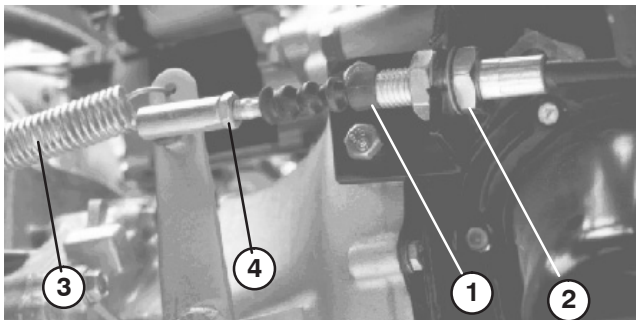

Figure 5
1. Loosen the jam nuts securing the clutch cable to the bracket on the bell housing (Fig. 5).